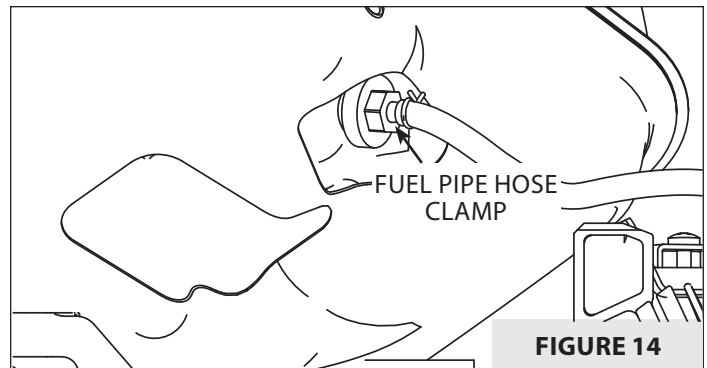

FIGURE 14
6. Gently lift tank off of the engine and disconnect the fuel line hose clamp. **SEE FIGURES 14 AND 15.**